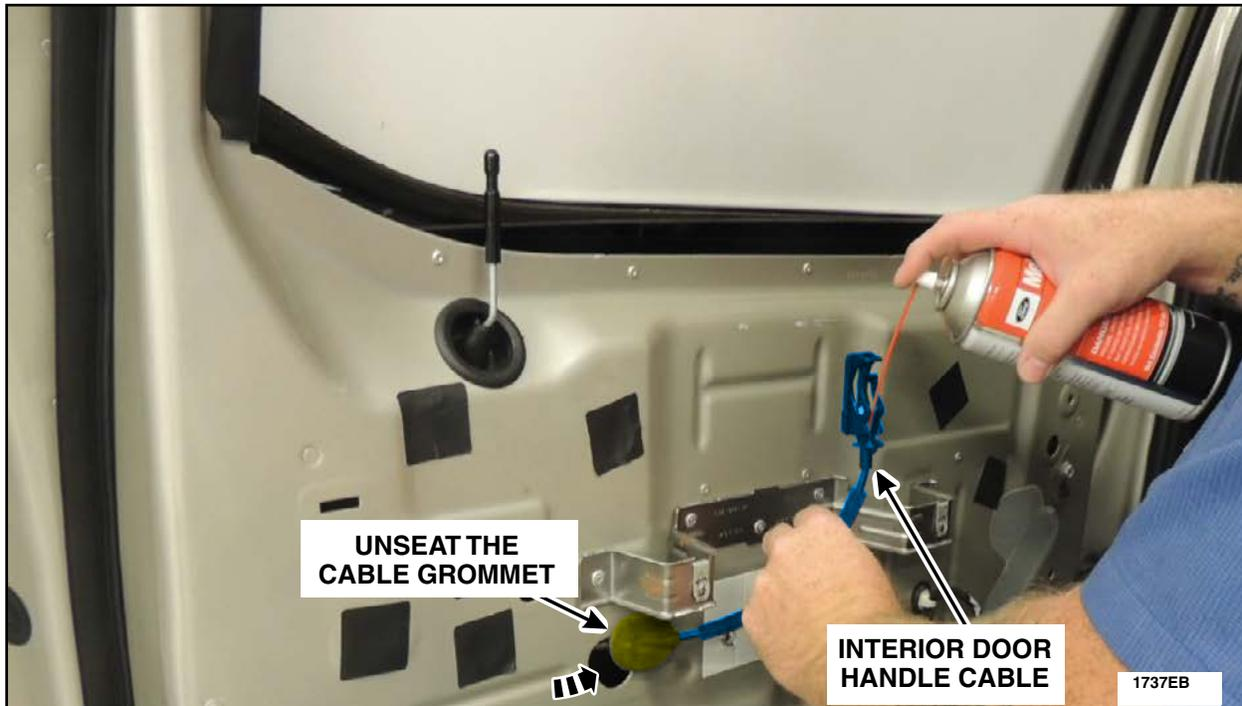

FIGURE 53
27. Unseat the interior door handle release cable rubber grommet and if equipped, release any cable retaining clips. Hold the end of the cable in the upright position and spray Motorcraft® XL-6 lubricant for 5 seconds into the cable. See Figure 53.